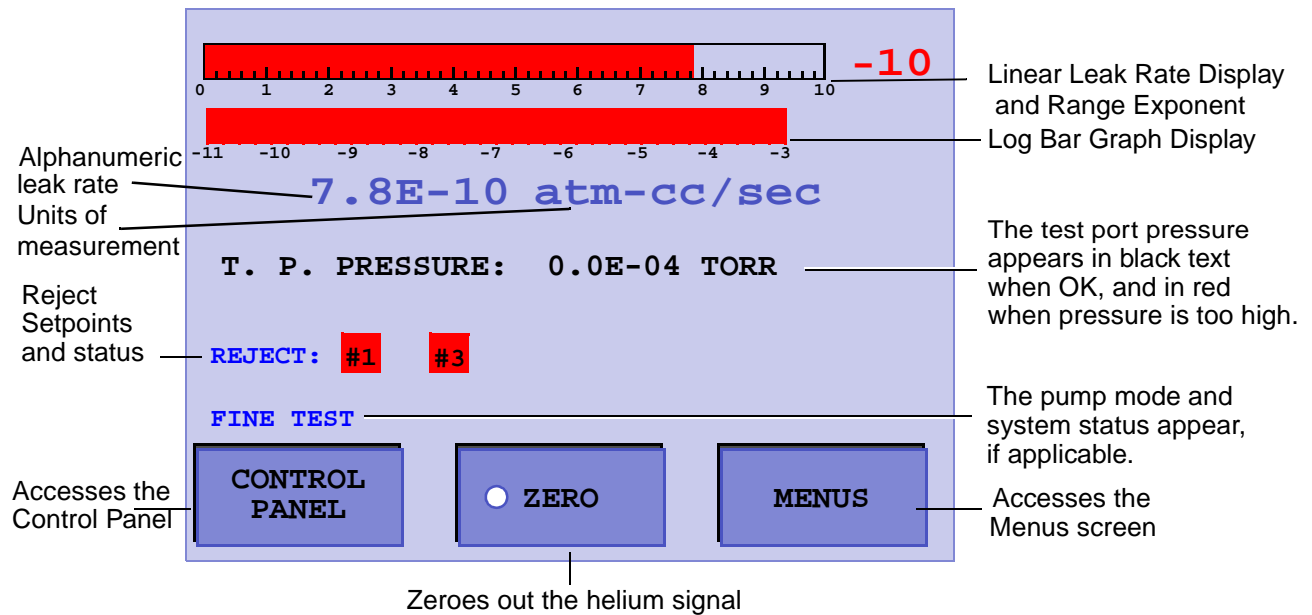

Figure 2-2 Home Screen
Two soft key buttons, Control Panel and Menu, give access for changing the leak detector configuration (Figure 2-2).
- Digital Leak Rate** Correlates (Figure 2-2) directly with the log bar graph leak rate display. The units for the measurements are selected on the Units Set-Up screen (see Section 3.1.5 “Units” on page 3-15).